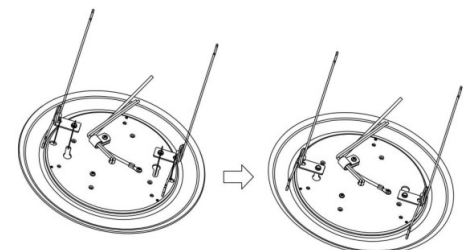

Figure 2
5. Affix the spring sets to the fixture using the screws provided. (Figure 2)